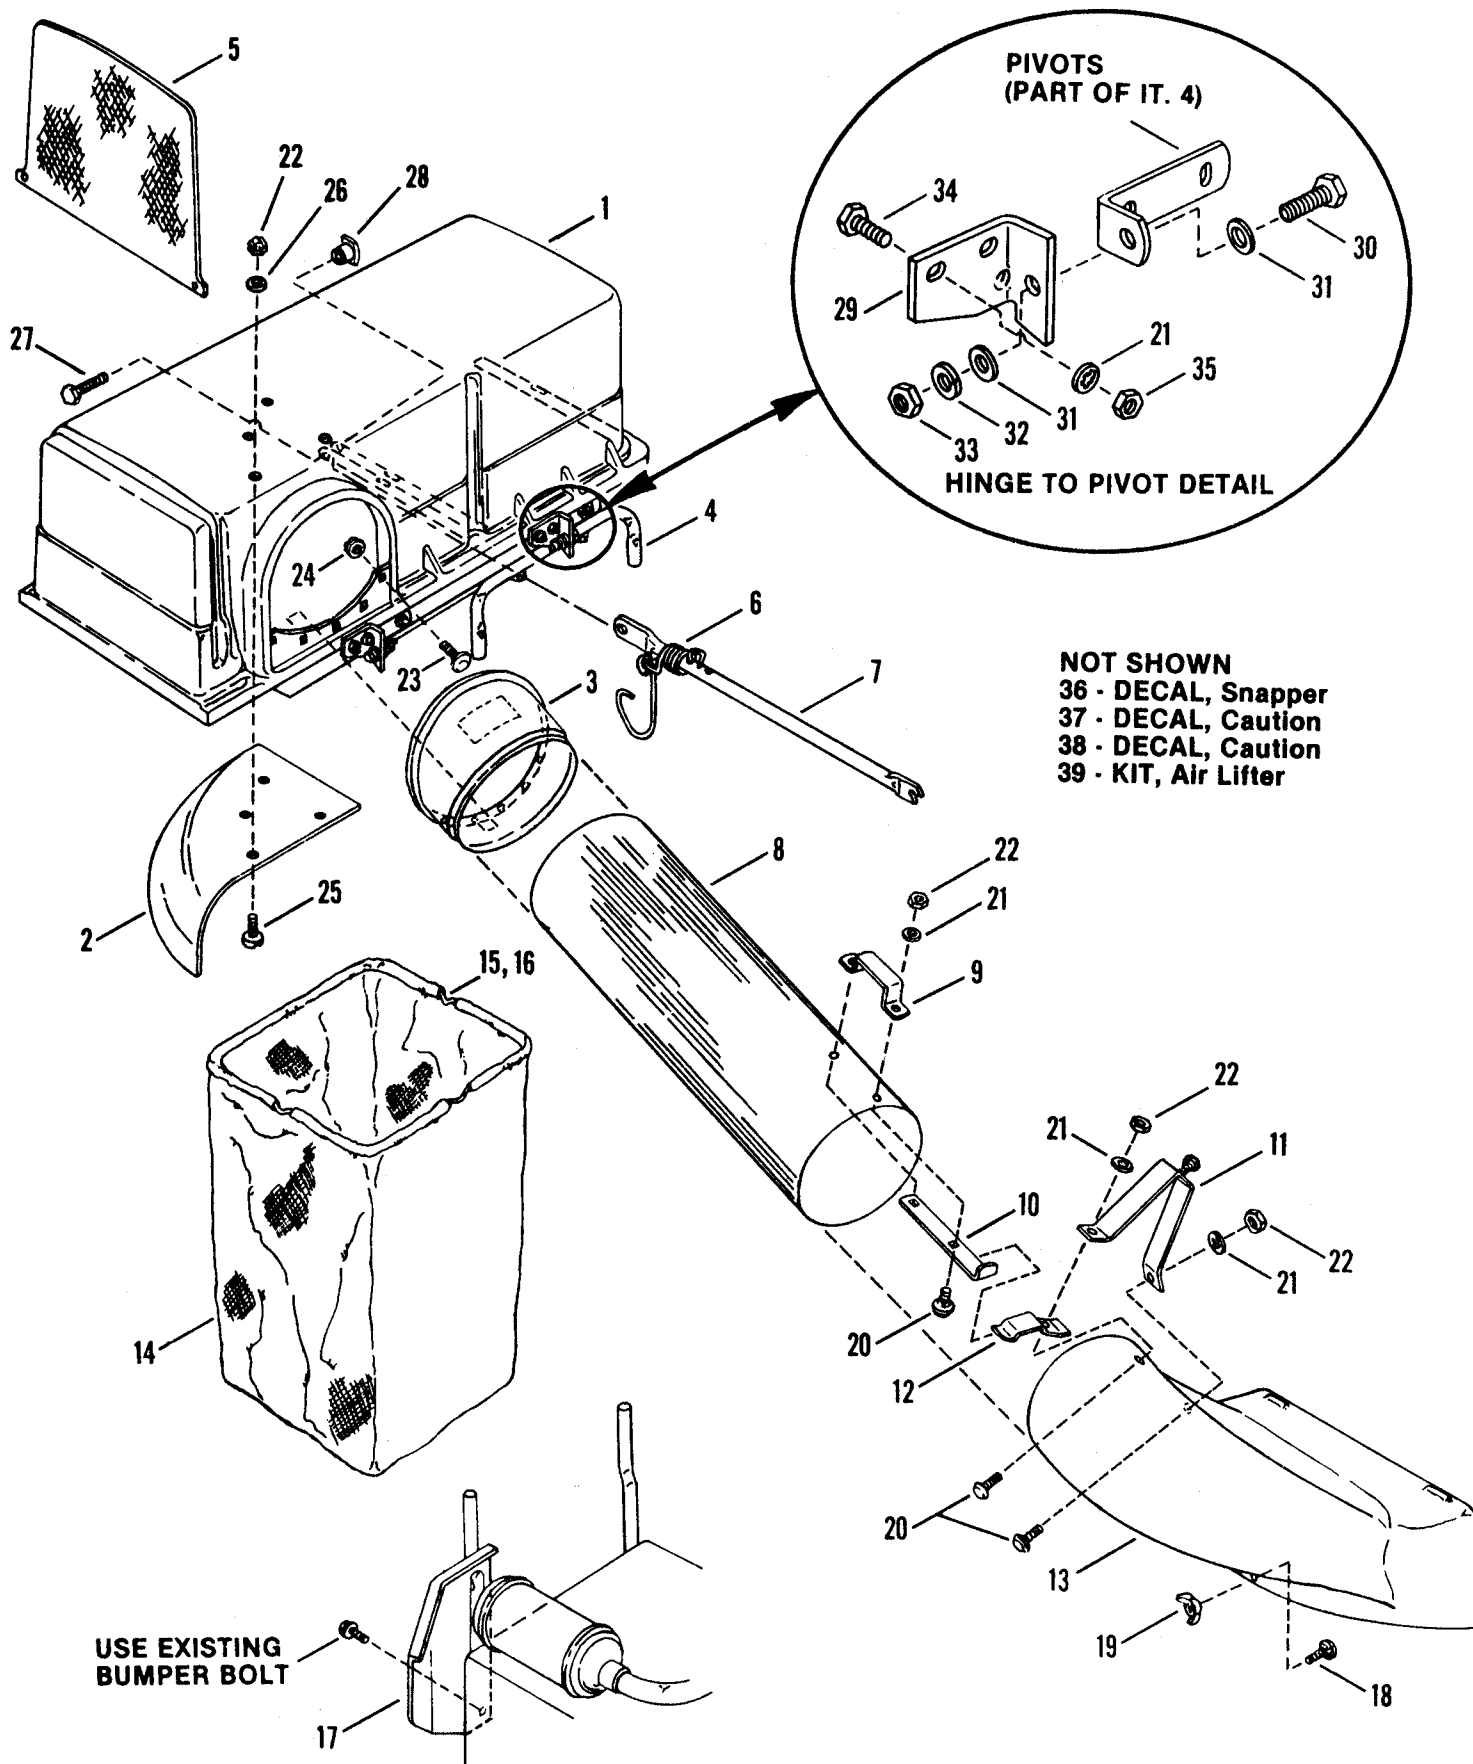

FIGURE 3 - TWIN BAG KIT COMPONENTS
3. TUBE HANDLE: Position the handle base inside the tube and the handle on the outside, align the holes then secure these with two 3/4" carriage bolts (heads on inside) and with two internal tooth lockwashers and 1/4-20 hex nuts on the outside of the handle. (Figure 3).
4. STAND-OFF BRACKET: Insert one of the 3/4" long carriage bolts from the inside of the hole closest to the tube end of the adapter, install tube latch, then stand-off bracket and secure these with an internal tooth lockwasher and 1/4-20 hex nut. Assemble other end of the stand-off bracket to the tube with same size fasteners. (Figure 3).
7. TOP SECTOR: Install the sector to the top inside surface of the cover as shown in figure 3 and secure with four 1/4x3/4" round head machine screws, 1/4 flat washers and 1/4 hex nuts.